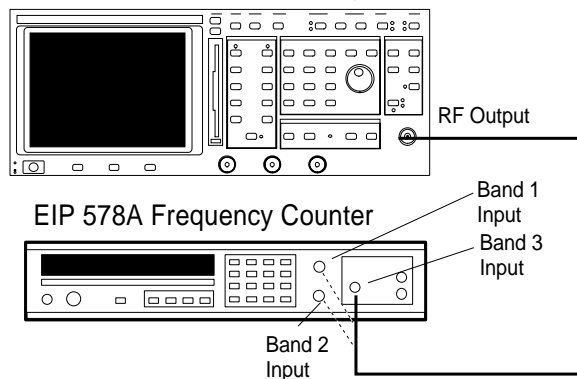

Figure 6-3. *Equipment Setup for YIG Driver Adjustment Procedure*
- Connect the input of the test equipment as shown in Figure 6-3. Select the correct band input on the counter for the frequency to be measured.